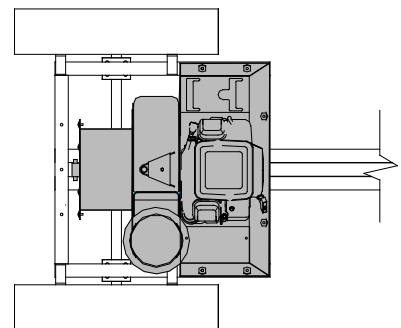

Fig. 11
**Mounting:** Fig. 11 illustrates the mounting position to the trailer (Billy Goat Part No. 791152) available from your Billy Goat dealer. The unit is only mounted one way.